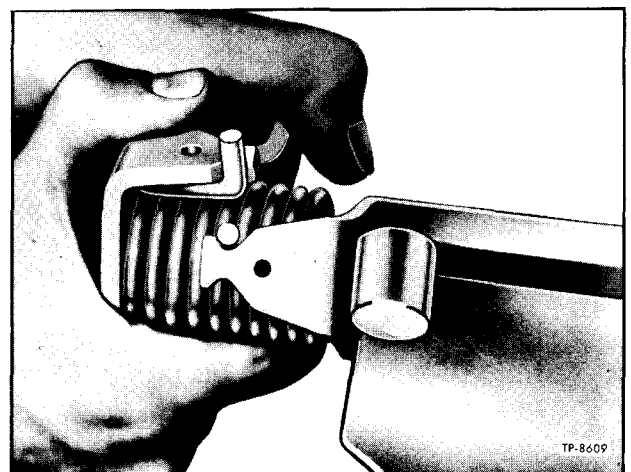

Figure 32—Assembling Torsion Spring and Levers (Eaton)
6. Install gasket (14) and cover (15) with three screws and lock washers (16). Tighten screws firmly.
7. If the assembly consisting of shift fork actuating lever (22), torsion spring (23), and spring winding lever (24) has been separated, re-assemble. With shift fork actuating lever (22) in vise, assemble parts as shown in figure 32. Turn